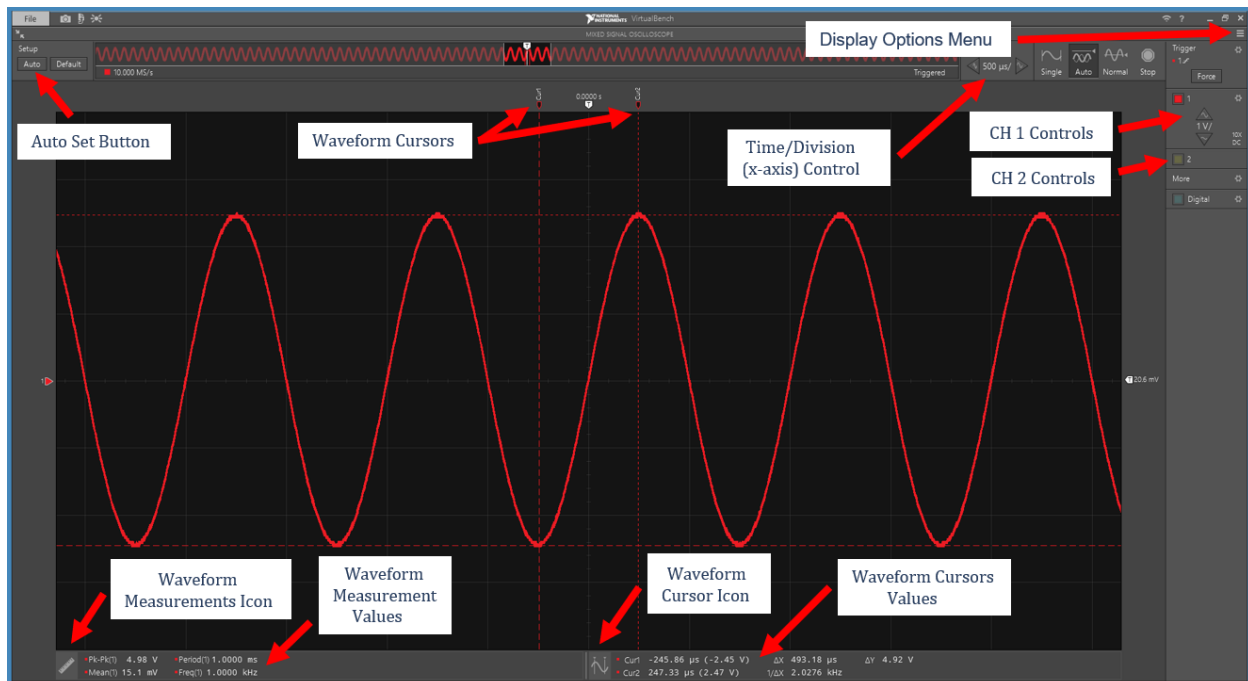

Figure 1: VirtualBench Oscilloscope User Interface Pane Example.
The VirtualBench Oscilloscope User Interface Screen with Channel 1 (red) connected to a 1 kHz sine wave with 5 V peak-to-peak output amplitude is illustrated in **Figure 1** below. Several automatic waveform measurements are available for the oscilloscope, controlled by means of the Waveform Measurement Icon illustrated below in **Figure 1**. Two waveform cursors are also available, controlled by the Waveform Cursor Icon, illustrated below in **Figure 1**.
The VirtualBench oscilloscope offers **Auto**, **Normal** and **Single** triggering modes, along with a **Stop** mode that stops waveform triggering to freeze the current waveform on the screen. In the **Normal** trigger mode, the oscilloscope refreshes a displayed waveform after a valid trigger occurs. If a valid trigger never occurs, usually because the trigger level is incorrectly adjusted for a given waveform, then the waveform never refreshes, making it difficult to find the waveform being measured to correctly adjust the trigger. **Auto** trigger comes to the rescue in these circumstances. In **Auto** trigger mode, the oscilloscope waits only so long for a valid waveform trigger, then automatically triggers and displays the captured waveform if the predetermined wait time expires before receiving a valid trigger. This helps in hunting for waveforms by providing some user feedback regarding the waveform to be measured. The **Auto** trigger mode is the default triggering mode for the VirtualBench oscilloscopes. The **Auto** button illustrated in the upper left-hand corner of the screen in **Figure 1**, sets the oscilloscope triggering to **Auto** and also provides for automatic adjustment of the amplitude and time scales in order to better view the waveform.
5. Measurement averaging on the VirtualBench oscilloscope can be invoked by means of a **Display Options** menu located in the upper right-hand corner of the Oscilloscope Screen, illustrated in **Figure 1**. Select **Acquisition** → **64 averaged** to reduce random measurement noise.